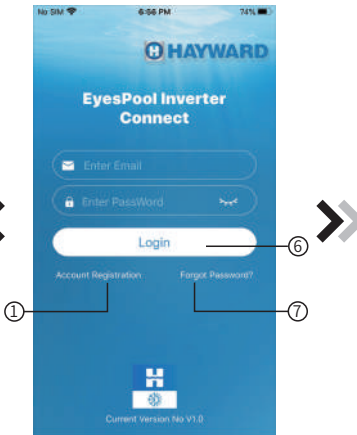
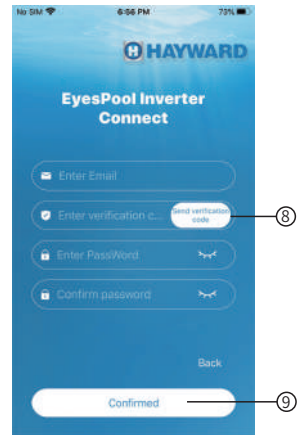

Fig.1 Login interface
Fig.3 Forgot Password interface
1. Account Registration: To register an account, click ① (Fig.1) to jump to the Account Registration interface, fill in the relevant information and click ② to receive verification code, while completed the application information, click ③ to read the details of the Privacy Policy, then click ④ to agree, and click ⑤, registration is done.
2. Log in: Follow the instructions on the page (Fig.1), enter your registered email address and password, click ⑥ and jump to device list;
3. Forgot Password: While forget your password, click ⑦ (Fig.1), jump to the Forgot Password interface (Fig.3). Follow the instructions on the page, fill in the relevant informations, click ⑧ to receive verification code from your mailbox, click ⑨ to confirm and password reset is done.